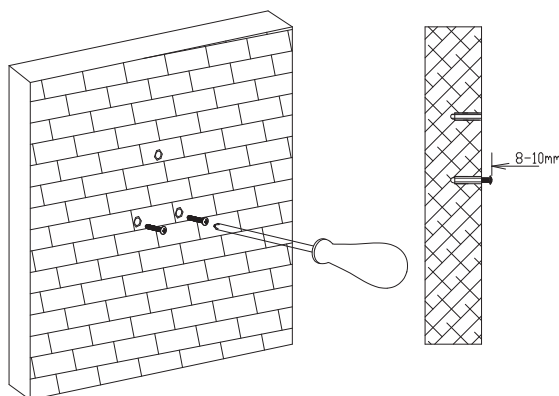

Fig. 4
3.3 Install two mounting screws into the screw holes on the wall, leaving some threads outside, so as to hang the fan assembly. (Fig.4)